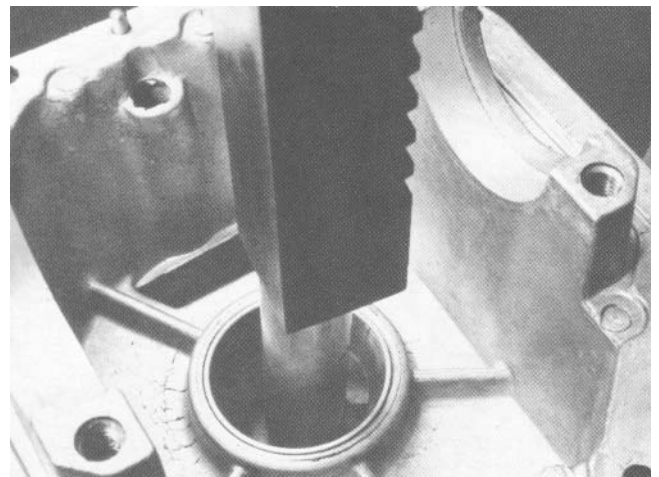

Figure 23
16. To remove the outer pinion bearing cup, position the housing in a press. Place a press plate of the proper size against the cup. Press the cup out of the housing (Fig. 23).